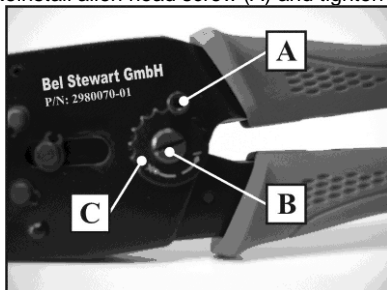

Fig.7.
- ❑ Using small screwdriver or similar tool, push the ratchet relief (A), located inside the moving handle, ( Fig. 7.) in direction as shown to unblock the tool, and remove obstruction before continuing with the work.